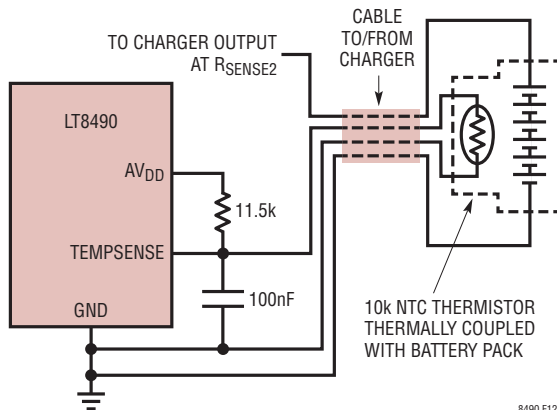

Figure 12. Battery Temperature Sensing Circuit
The LT8490 can measure the battery temperature using an NTC (negative temperature coefficient) thermistor thermally coupled to the battery pack. The temperature monitoring function is enabled by connecting a 10kΩ,  $\beta = 3380$  NTC thermistor from the TEMPSENSE pin to ground and an 11.5kΩ resistor from  $AV_{DD}$  to TEMPSENSE (as shown in Figure 12). If battery temperature monitoring is not required, then use a 10kΩ resistor in place of the thermistor. This will indicate to the LT8490 that the battery is always at 25°C.
3. BATTERY DISCONNECT SENSING: The LT8490 detects if the battery and thermistor have been disconnected from the charger by monitoring the TEMPSENSE pin voltage. When the connection to the battery is severed, as shown by the arrow in Figure 12, the connection to the thermistor is also severed and the TEMPSENSE voltage rises up to  $AV_{DD}$  through the 11.5k $\Omega$  resistor. During the time when the battery is not present, the LT8490 halts charging. The charger automatically restarts the charging at Stage 0 when a battery (along with integrated thermistor or resistor) is sensed through the TEMPSENSE pin.